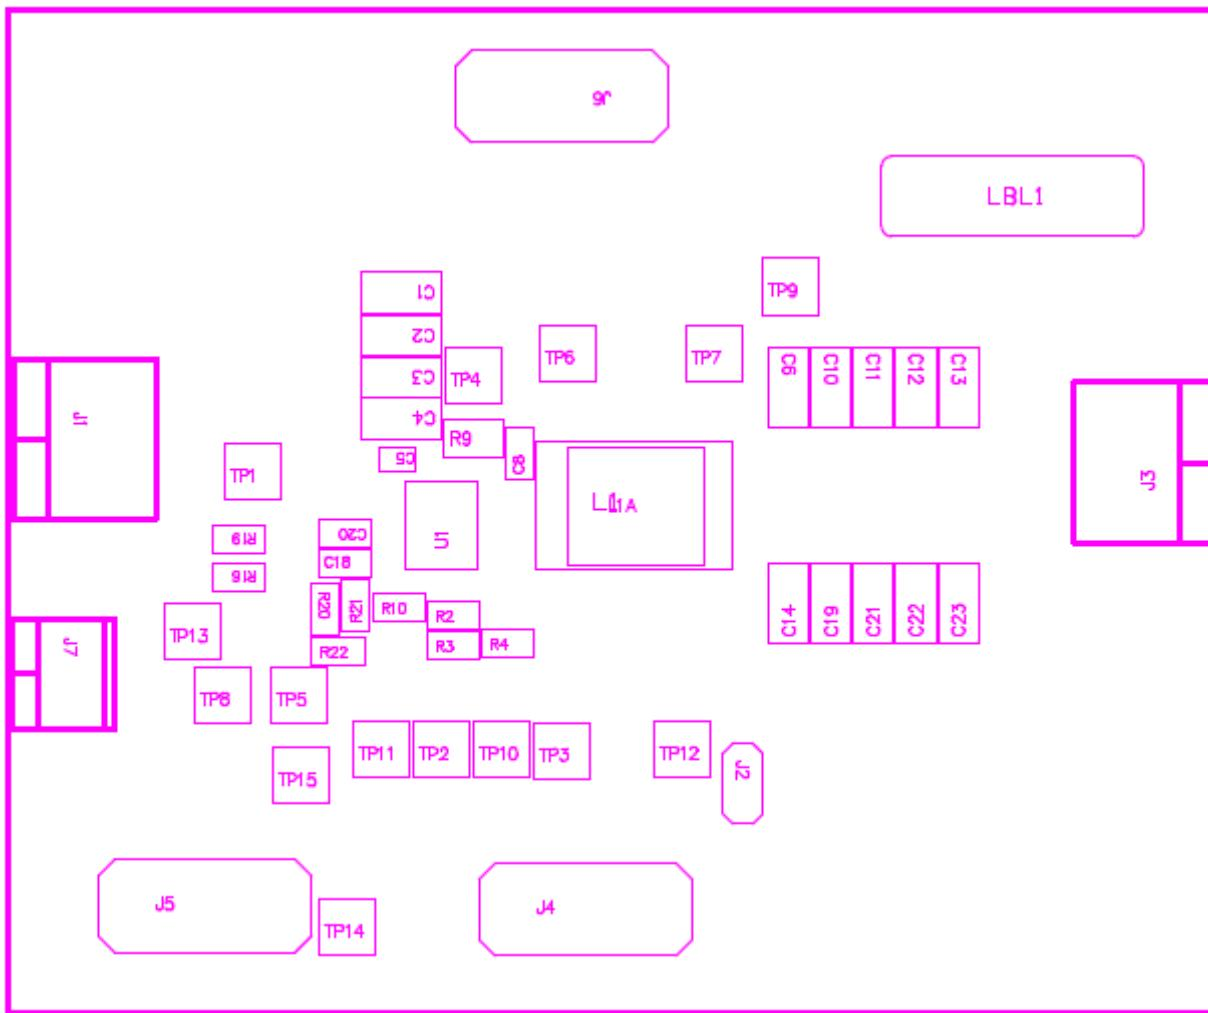

Figure 3. TPS548A20EVM-587 Top Layer for Test Setup
Voltage Source— The input voltage source VIN must be a 0 to 14-V variable-DC source capable of supplying 10 ADC. Connect VIN to J1 as shown in Figure 3.
1. Prior to connecting the DC input-source, VIN, TI recommends to limit the source current from VIN to 10 A maximum. Ensure that VIN is initially set to 0 V and connected as shown in Figure 3.
1. Set up the EVM as described in Section 5 and Figure 3.